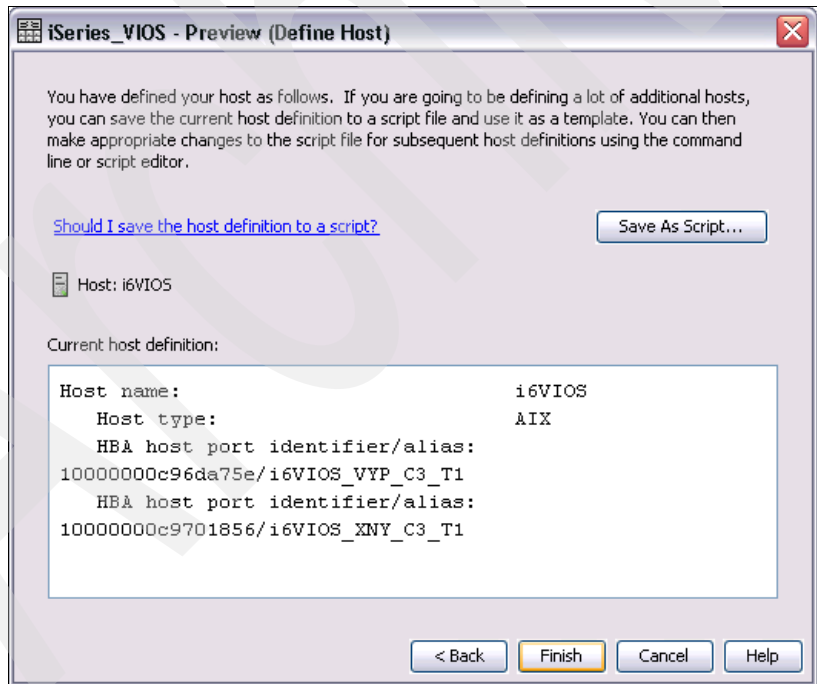

Figure 7-71 DS Storage Manager Preview (Define Host) dialog
12. After reviewing the host configuration in the Preview dialog we click **Finish** to finally create the host definition for our host i6VIOS, as shown in Figure 7-71.